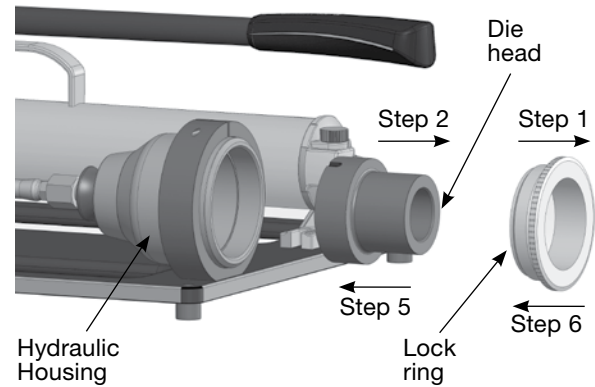

Fig. 7 Body Die Removal / Installation
2. Remove the previously installed **die head** from the **hydraulic housing**. See Fig. 7.